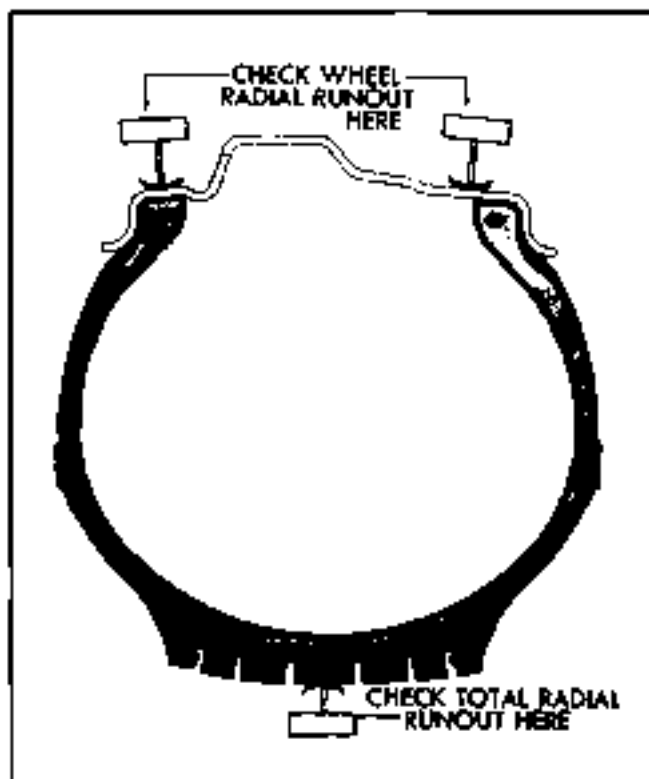

Fig. 10-2 Radial Runout Inspection
3. Attach a dial indicator to the car body or stationary support. With indicator against tire (Fig. 10-2), slowly rotate wheel and check for total radial runout of wheel and tire. Maximum allowable total radial runout is .092". If total radial runout exceeds .092", then re-index tire to wheel as noted below and recheck runout of assembly. If still over .092", check radial runout of wheel only.